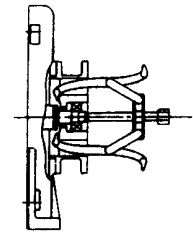

Fig.7
- (1) Remove belt ③①, and remove blower pulley ③. (See “12. Instruction for belt tension Adjusting and/or belt Replacing”)
- (2) Remove the bare blower from the base. Stand the blower on a stand with the inlet side up. (Be careful not to tip over the blower during the work.)
- (3) Remove bearing cover ⑧.
- (4) Remove bearing nut ⑨ and bearing washer ⑩.
- (5) Remove the screw holding bearing box (inlet side) ⑦. Pull out both bearing ⑪ and bearing box (inlet side) ⑦ together. (Fig.7)
- (6) Pull off bearing ⑪ from bearing box (inlet side) ⑦. (Tapping bearing ⑪ with a hammer-handle from backside will help for easy removal.)
- (7) Remove fan case fastening bolts ③④, and remove fan case (C) ⑥.
- (8) Remove fan stopper nut ⑫ and fan stopper washer ⑬.
- (9) After removing collar ⑮, remove fan ⑯, deflector ⑰, fan case (B) ⑤ through the last fan in this order.